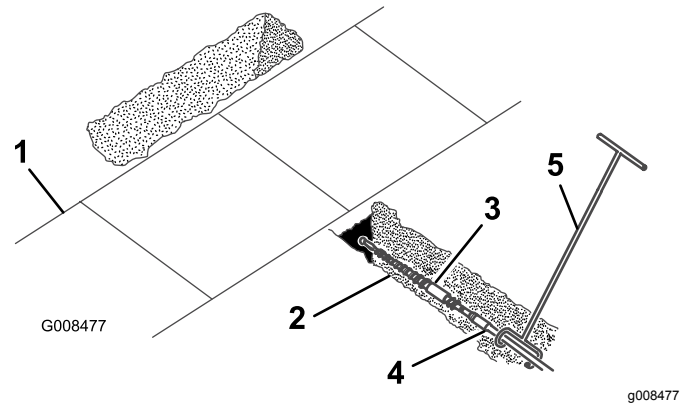

Figure 5
4. Connect the rod guide tool to the rod just behind the boring bit (Figure 5).
5. With the person guiding the boring bit positioned to the right of the trench (Figure 5), start the engine, move the pump selector valve to the SLOW position (200 and 300 series traction units only), move the throttle to midway between the SLOW and FAST positions, and pull the auxiliary hydraulics lever rearward to start the forward rotation of the boring bit.
6. Slowly move the traction unit forward, while the person with the rod-guide tool guides the boring bit into the soil (Figure 5).